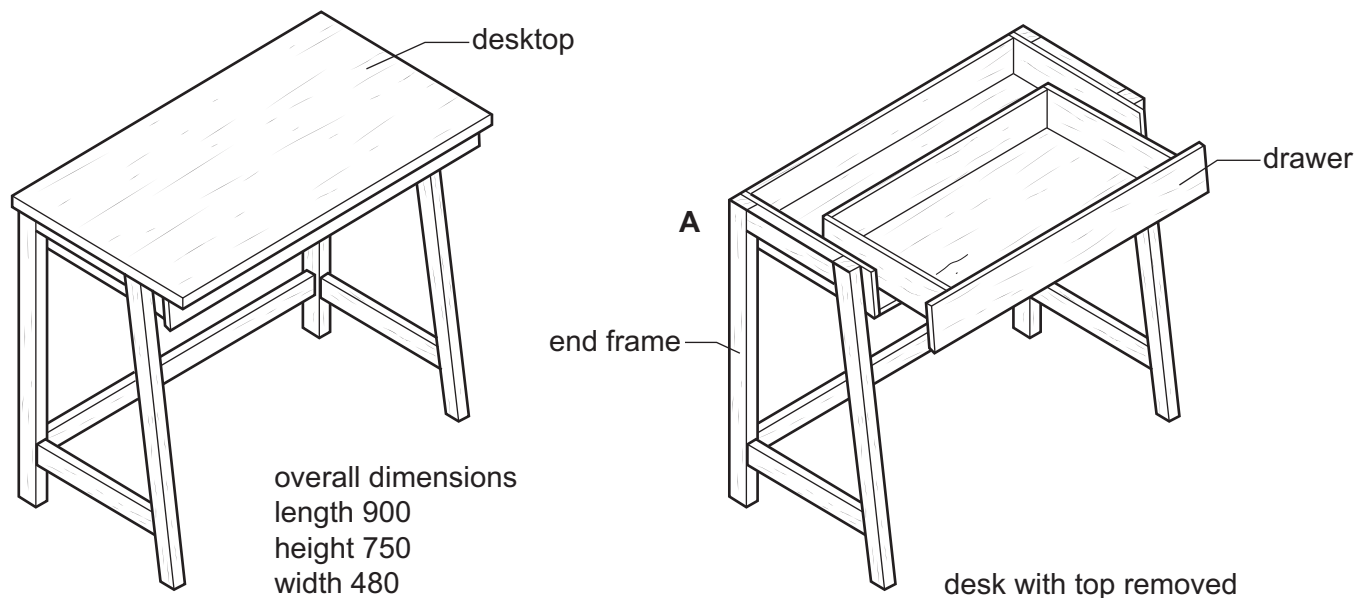

Fig. 13.1
13 Fig. 13.1 shows views of a desk made of wood.
- (b) Fig. 13.2 shows part of the rail and leg at corner **A** in Fig. 13.1. The rail and leg will be joined using dowels. Centre lines for the dowels have been marked out.